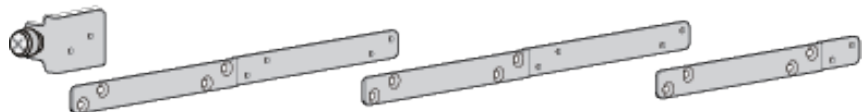

Figure 109. Extension Bracket Configurations
You adjust the lengths of the brackets by connecting them in different combinations. There are seven possible configurations. Refer to Figure 109. The default configuration is number 5. To adjust the extension brackets, perform the following procedure:
1. Review Figure 109 to find the bracket length that most closely matches the measurement taken in step 3 in the previous procedure.